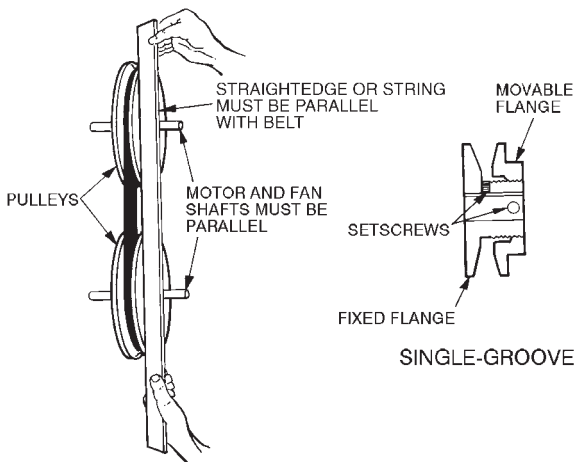

Fig. 42 – Indoor-Fan Pulley Adjustment
3. Loosen the movable pulley flange setscrew. (See Fig. 42.)
To align the fan and motor pulleys (See Fig. 42.):